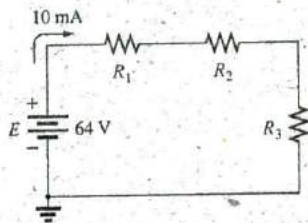

FIG. 5.117
- *34. a. Design the circuit in Fig. 5.117 such that $V_{R_2} = 3V_{R_1}$ and $V_{R_3} = 4V_{R_2}$.